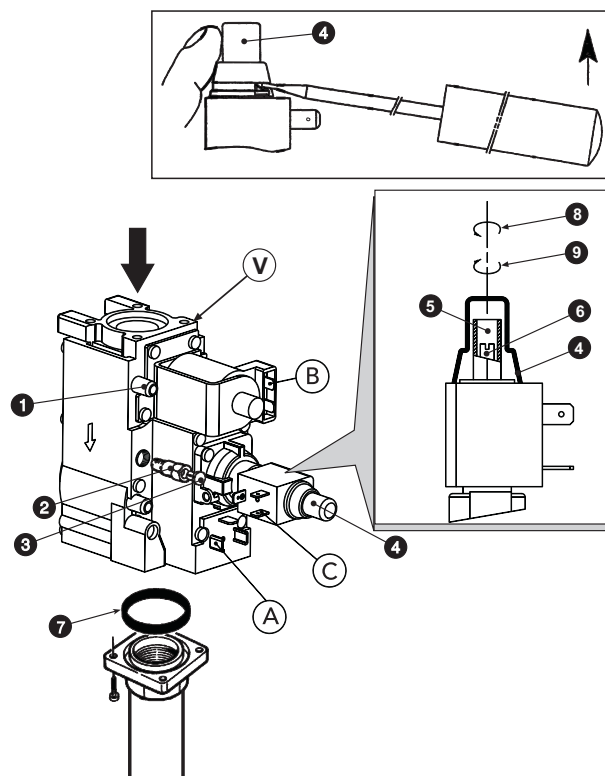

fig. 4 - Gas conversion
Pressure adjustment operations must be carried out with the boiler working, using the pressure regulator on the 2-stage gas valves (see fig. 4)
3. Remove the protection cap of the pressure regulator 4 of fig. 4.
1. Turn the control thermostat knob slowly clockwise to the 1st click; the gas valve will thus be supplied only on connections A and B (see fig. 4).
2. Turn the screw 6 of fig. 4, checking that the pressure matches the values given in the technical data table in sec. 5.4.
1. Turn the control thermostat knob to maximum; the gas valve will now be supplied only on connections A, B and C (see fig. 4).
2. Turn the screw 5 of fig. 4, checking that the pressure matches the values given in the technical data table in sec. 5.4.
2. Remove the small cap 3 (fig. 4) from the gas valve, screw the ignition "STEP" regulator 2 (contained in the conversion kit) onto the valve and refit the cap 3 on the regulator.
Carry out the same operations described above, making sure to remove the ignition "STEP" regulator 2 of fig. 4 of the gas valve; the cap 3 of fig. 4 must be fitted directly on the valve.